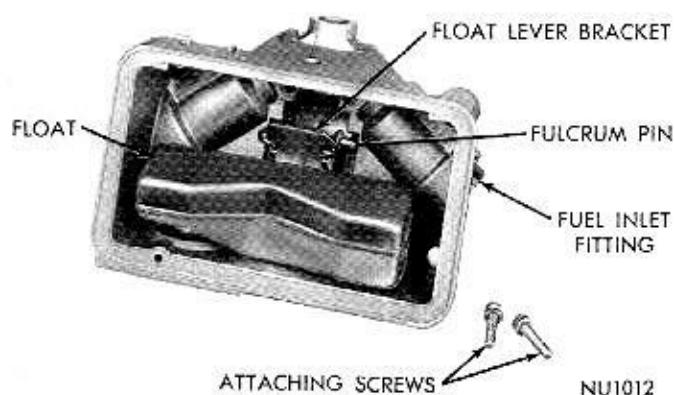
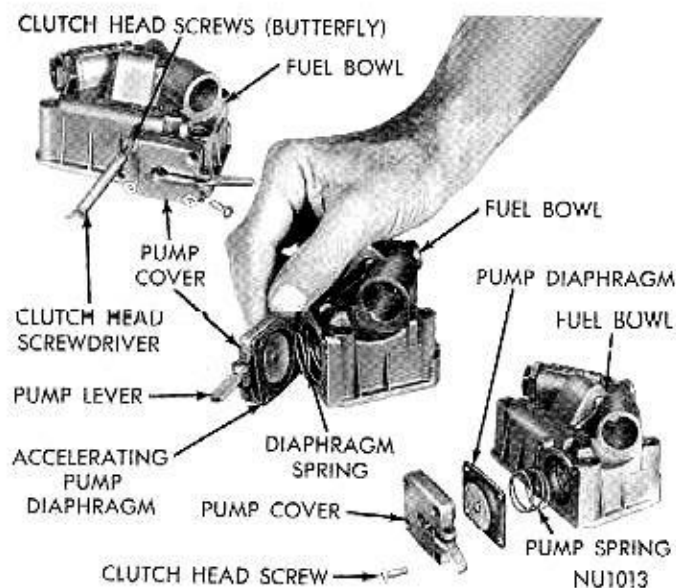
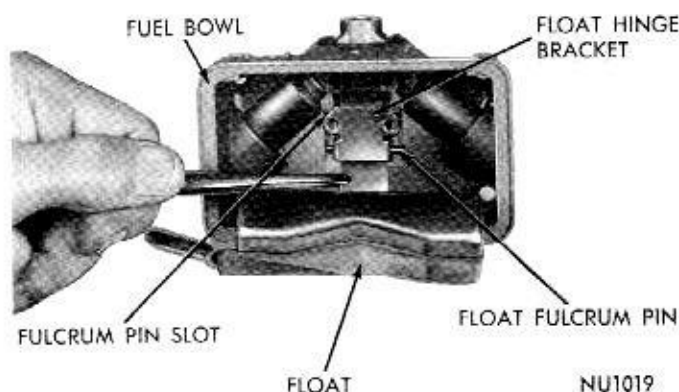

Fig. 13—Removing Float Assembly
Fig. 14—Removing or Installing Accelerating Pump
Fig. 20—Installing Float Assembly
(3) Remove screws that attach float lever bracket to fuel bowl. Remove float, spring and fulcrum pin from fuel bowl (Fig. 13).
(4) Remove sight plug and gasket from bowl. Discard gasket.
(5) Using special clutch head screwdriver Tool CL-13, remove screws that attach accelerating pump cover. Remove cover, then carefully remove diaphragm and return spring (Fig. 14).
(1) Place a new gasket over fuel inlet fitting, then install fitting in fuel bowl. Tighten securely.
(2) Install accelerator pump spring in position in fuel bowl, followed by diaphragm and pump cover. (When installing diaphragm, be sure contact button rivet head is toward pump lever in cover (Fig. 14). Install clutch head screws and tighten securely, using Tool CL-13.
(3) Install sight plug and new gasket in bowl.
(4) Slide float and hinge bracket in position in bowl, with fulcrum pin seated in slot. Install attaching screws and tighten securely (Fig. 20).